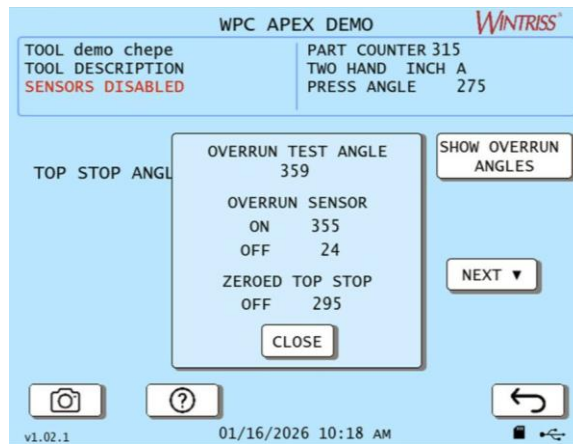

Figure 3-41. WPC APEX Display Showing Overrun Sensor “On” Angle
4. Run the press in Inch mode for about 4 strokes, viewing the overrun sensor’s On/Off angles on each stroke. To display the On/Off angles, press SHOW OVERRUN ANGLES. A popup window shows the overrun sensor on and off angles, Figure 3-41.